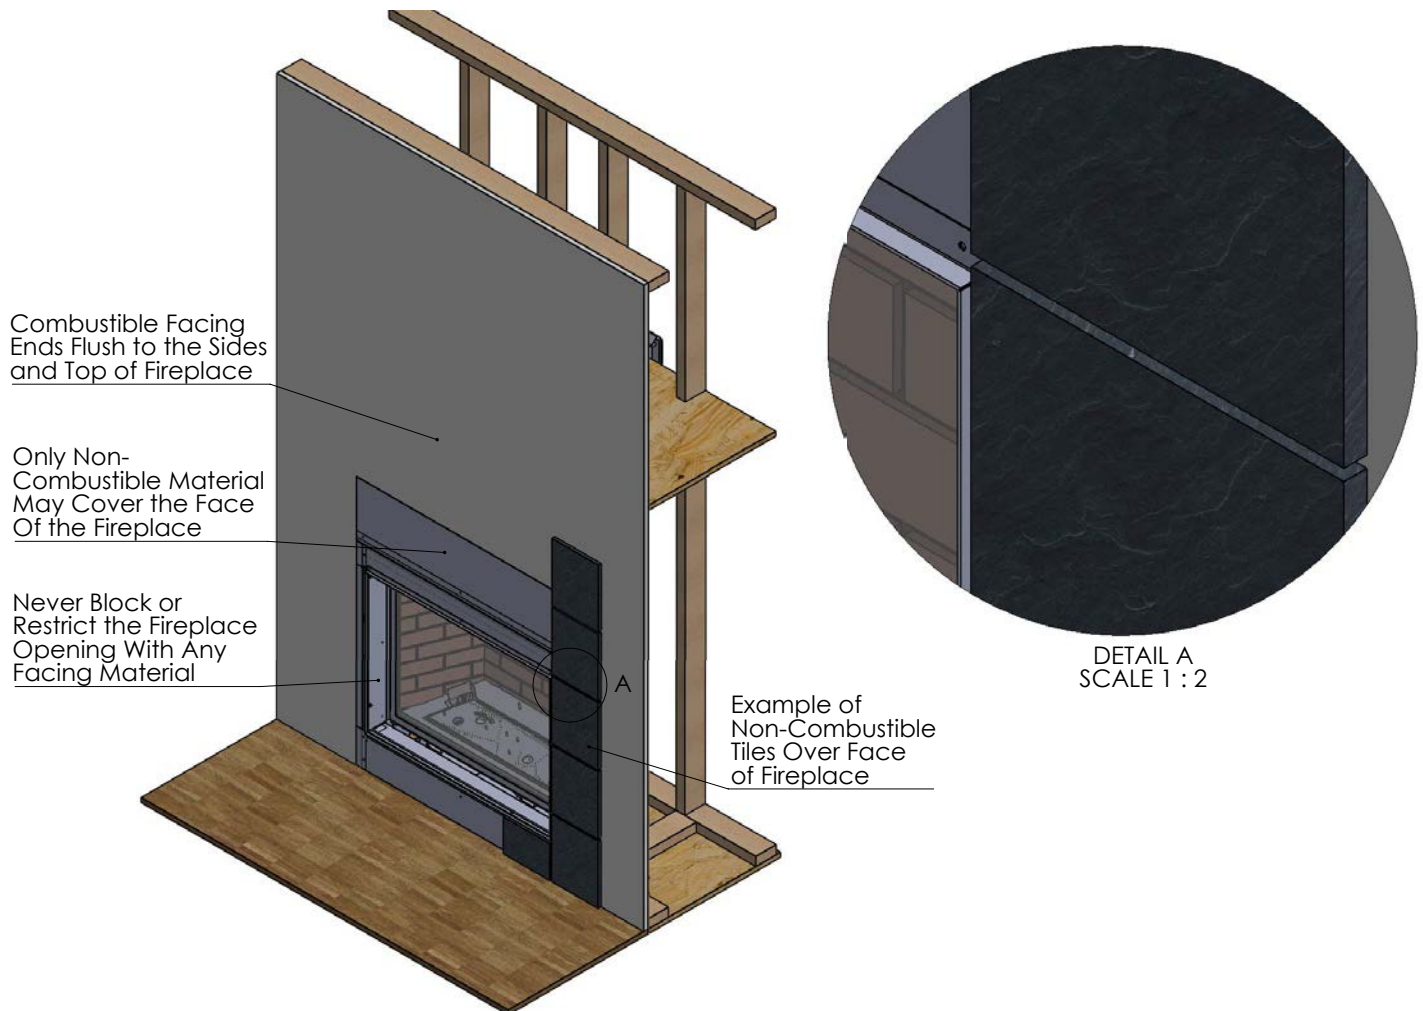

Figure 12.3.02
Install the finishing strips using the twelve (12) 1/8" rivets included. Never place combustible material over the face of the fireplace. See **Figure 12.3.02** for finishing details.